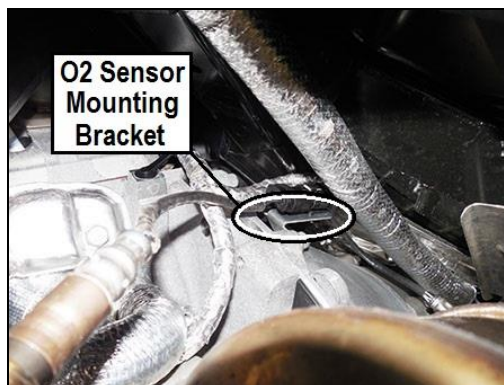

Figure 4
15. Disconnect the O2 sensors from the vehicle harness (1 Black – 1 Grey connector each side). The driver's side will require the connector mounting bracket to be removed from the transmission to access the connectors. Use a long extension and a universal to access the bolt securing the bracket to the transmission. Remove the heat shield wrap around the connectors, push the lock back, and release the connectors (**Figure 4**).